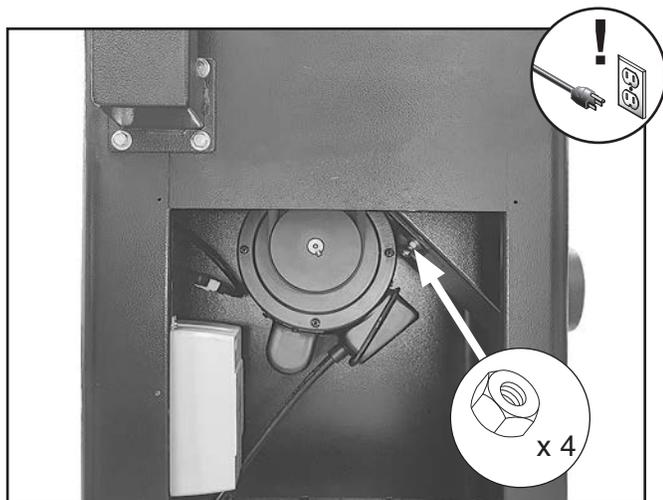

Figure 57. Location of motor mount hex nuts.
3. Loosen motor mount hex nuts shown in **Figure 57**. DO NOT completely remove nuts.
6. Tighten motor mount hex nuts (see **Figure 57**), and replace cabinet rear access panel.
3. Loosen motor mount hex nuts shown in **Figure 57**.
6. Tighten motor mount hex nuts (see **Figure 57**), and replace cabinet rear access panel and belt guard.